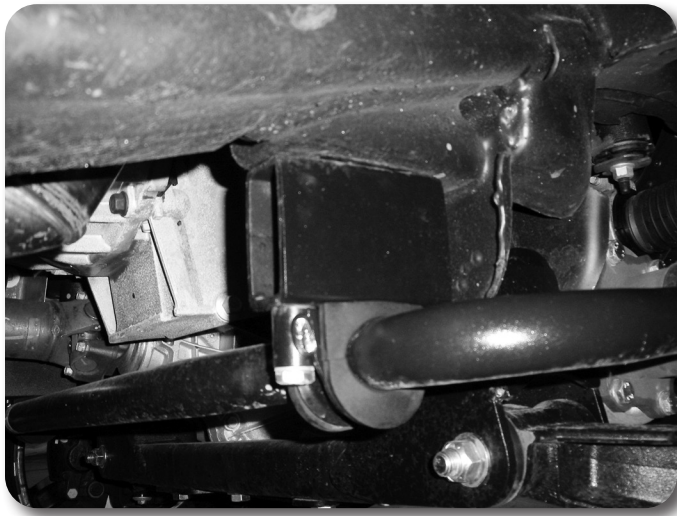

Figure 21
48. Attach the front sway bar to the original mounts in the stock orientation in conjunction with the provided drop brackets and 10mm socket head bolts and washers. 6.5" kits use 120mm long bolts, 4.5" kits will use 80mm long bolts. Use Loctite on the bolt threads and torque to 45 ft-lbs **Figure 21**.